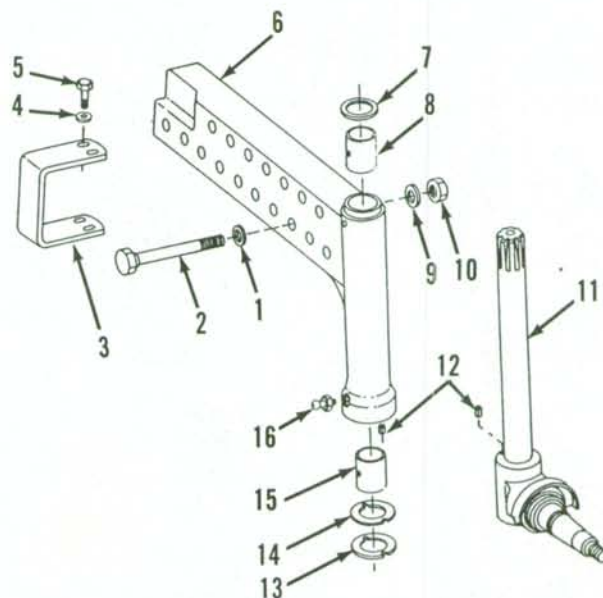

Fig. 2—Exploded view of axle extension, spindle and relative components.
**2. REMOVE AND REINSTALL.** To remove spindle (11—Fig. 2), first remove wheel and hub as outlined in paragraph 1. Disconnect tie rod end (14—Fig. 3) from steering arm (8). Remove cap screw (6) and washer (7) from top of spindle, then remove steering arm (8) and shim (7—Fig. 2). Lower spindle (11) out of axle extension (6). Thrust washers (13 and 14) will be removed with spindle. Clean and inspect all parts